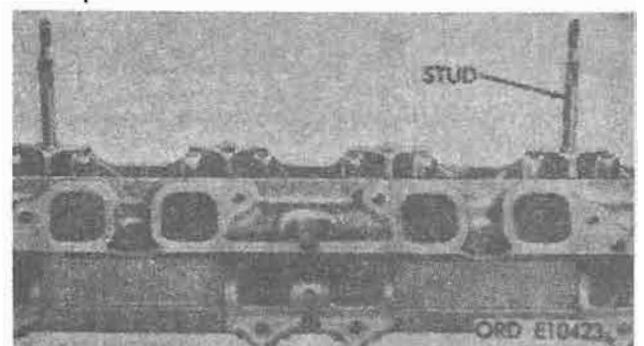

Figure 4-125. Valve rocker arm shaft support studs.
c. *Remove Studs.* Check the two valve rocker arm shaft support studs (fig. 4-125) for cracks and for damaged threads. Remove if necessary with a suitable tool.
c. *Install Studs.* Install two valve rocker arm shaft support studs with suitable tool. Tighten each stud firmly until threads shoulder on cylinder head surface. Refer to figure 4-125.